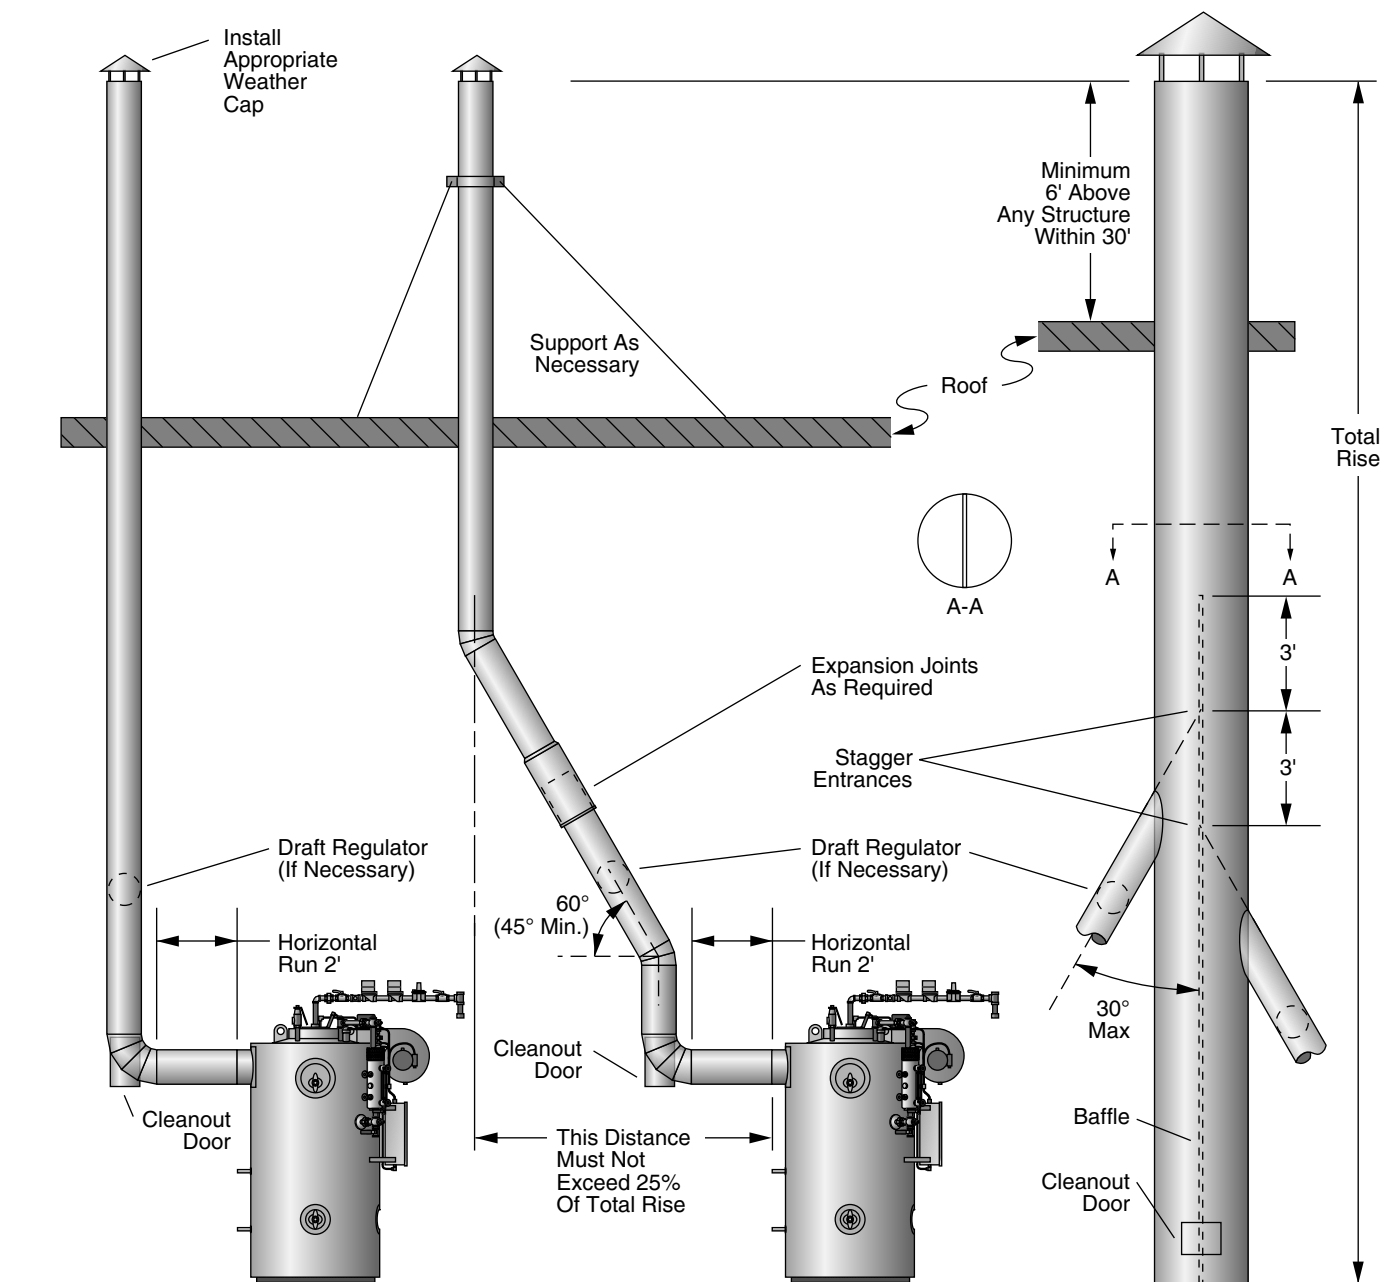

Figure 5 - Typical Stack
5. The run in the total distance of stack ducting, as measured in a straight line from the outlet of the heater to the outlet of the stack, should not exceed 70% of the rise. With the exception of the duct run previously described, horizontal sections of ducting must be avoided and should not exceed four feet total. See Figure 5.
10. The installation of a draft regulator by the client/contractor is recommended at all installations. This will help to maintain the required draft. The placement of the draft regulator should be as shown in Figure 5.